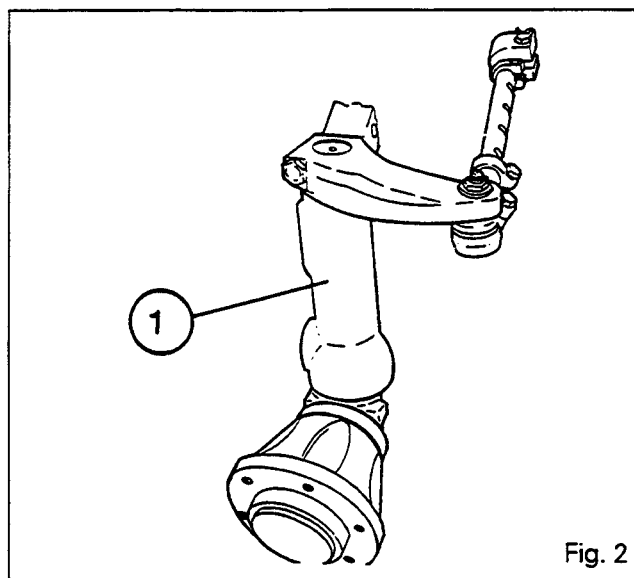

Fig. 2
87. Remove the screws (36) and the nuts (10).
88. Remove the nuts (40), the washers (39) and the screws (38).
89. Remove the assemblies (1) (Fig. 2).
90. Remove the pin (51) and the nut (52), withdraw the ball joint (53) from the support (54), detach the ram from the axle (11).
107. Grease the rods (43) with molybdenum disulphide. Refit the assemblies (1) (Fig. 2). Fit the nuts (10) and the screws (36). Tighten to a torque of :